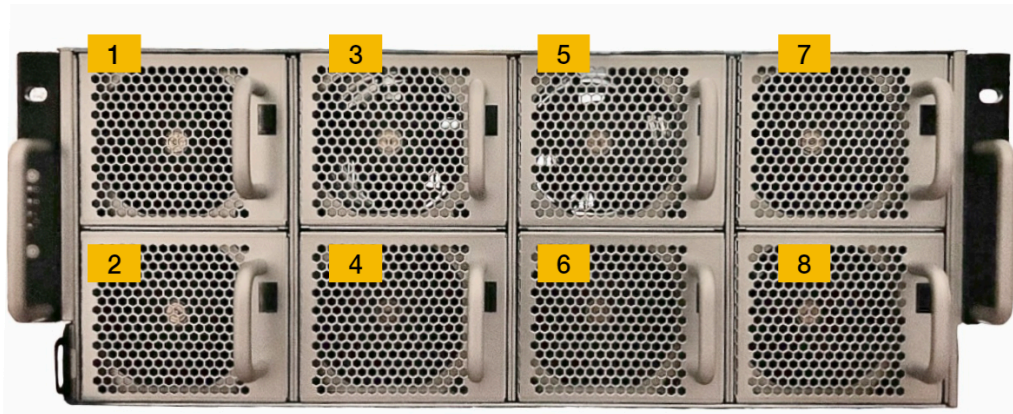

Figure 116. Picture of the Fans from the Front View
- Identify the faulty fan using the numbering system shown in the figure below. (Refer to Figure 116: Picture of the Fans from the Front View)